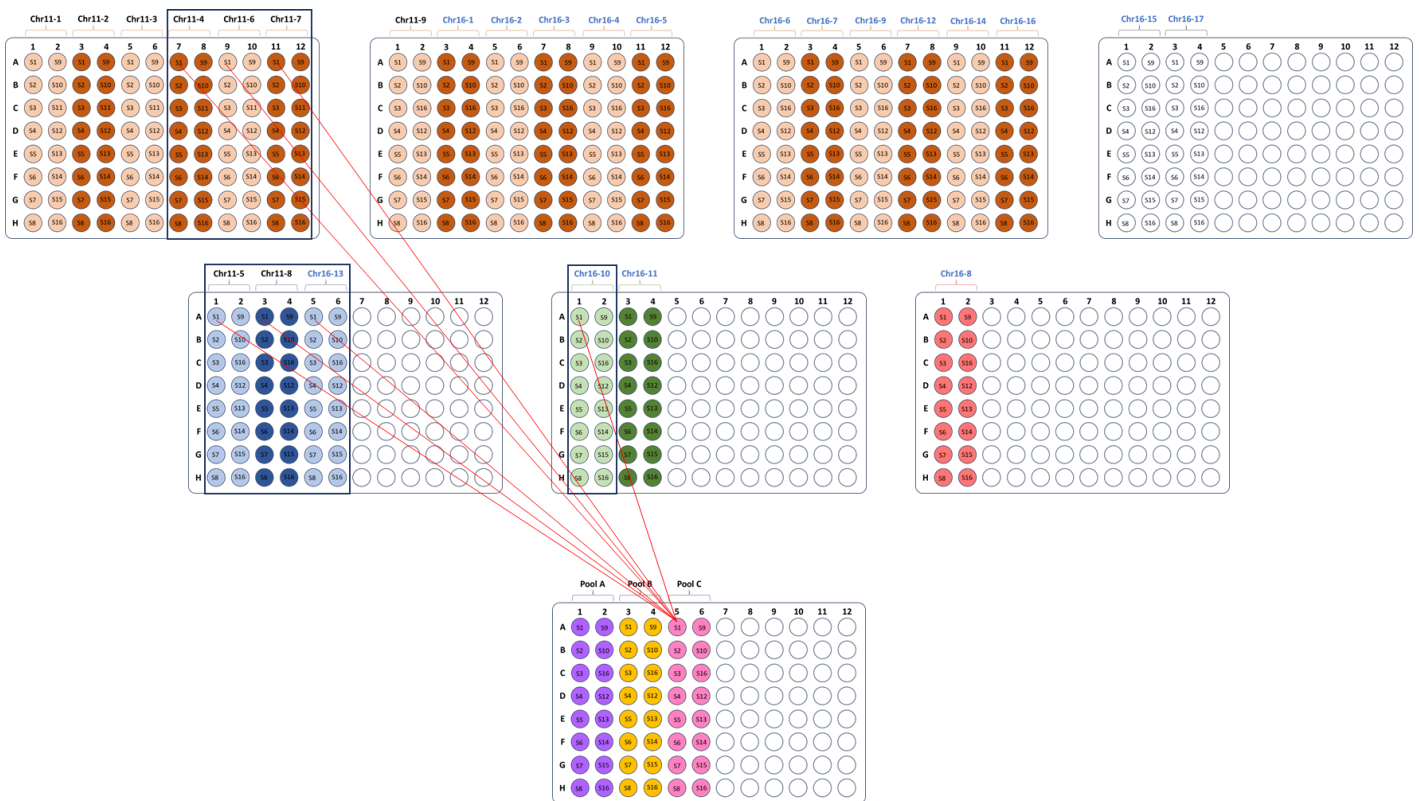

Figure 4: Illustrative example of pooling 16 samples into 3 groups in plate format.
- i) For each sample, pool the amplicons into new 1.5 mL microcentrifuge tube/ 0.2 mL PCR plate according to the Table 6, and Figure 4 is the illustrative example of pooling 16 samples into 3 groups in plate format. Each sample will have 3 groups of pooled amplicons.